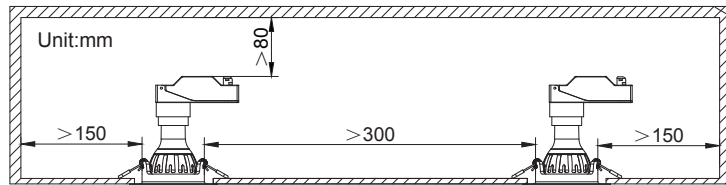

Figure 1 – Minimum clearance distances
- Observe the minimum safe distance between downlights and the clearance between the downlights and other materials indicated in **Figure 1** to allow proper air circulation.